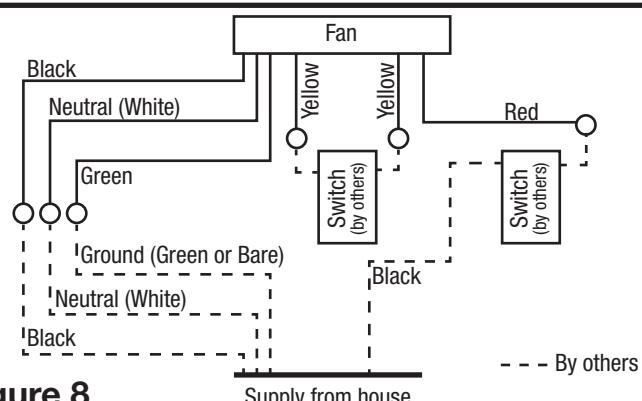

Figure 8
2. **Continuous Ventilation:** For two speed fans wired for continuous ventilation, connect the White wire of the fan to the White (Neutral) wire from the power source. Connect the ground wire from the house to the green wire from the fan housing. Connect the Black wire of the fan to the Black wire (Hot) from the power source. Using a properly grounded standard switch (not included) connect the Black wire from the supply to the switch. Connect the Red wire (light) from the fan housing to the other side of the switch. Using a second properly grounded standard duplex toggle switch, connect the Hot Yellow wire from the fan to the input of the switch. Connect the second Yellow wire from the fan to the output side of the switch. Closing the switch will change from normal to high speed (**Figure 8**).